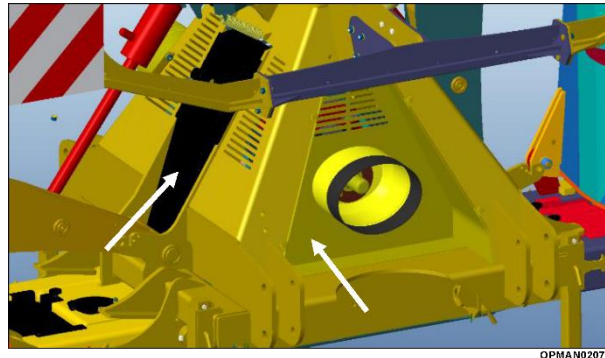

Figure 29
9.3.2.1 Remove the belt shield (Figure 29).
- 9.3.2.7 Re-install back all shields as shown in Figure 29.